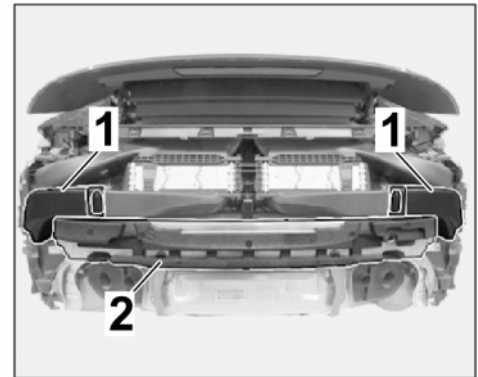

Figure 4
- 1.5 Remove bumper rear. ⇒ *Workshop Manual '635019 Removing and installing bumper rear', ⇒ Figure 4*